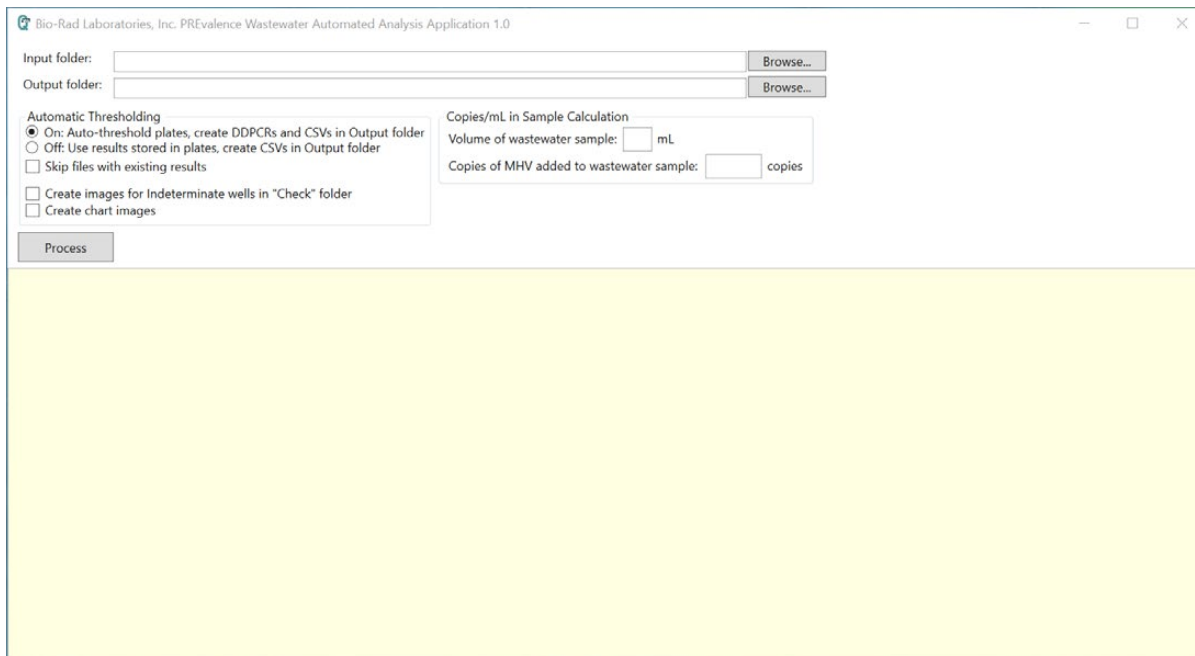

Fig. 2. Main interface for the PREvalence Wastewater Automated Analysis Application tool.
1. Double click the application icon to launch the application. The interface in Figure 2 will be displayed.